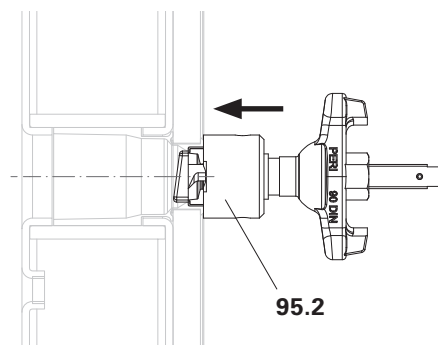

Fig. D6.04a
2. Turn the Removable Tool MX towards the panel until the Extractor Bell (95.2) rests against it. (Fig. D6.04a)